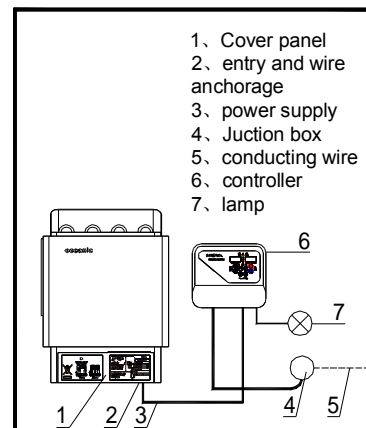

fig 8
- (2) remove the cover panel. connect power supply wire ,control cable from the knock-out hole to Terminal as fig 8;
- (3) cover the panel and fatten the screws;